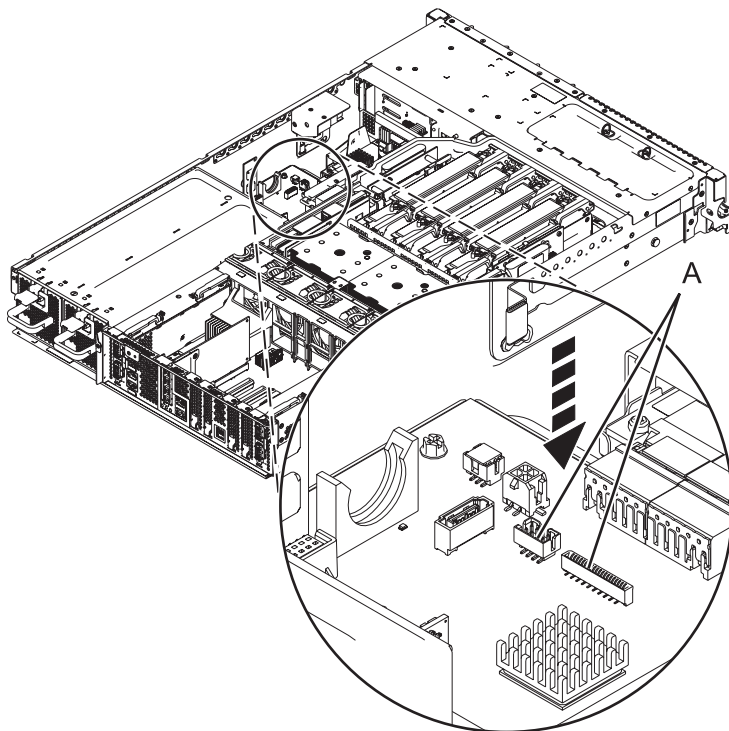

Figure 61. Connecting the operator panel cable
- c. Connect the operator panel cable by firmly pressing the cable connectors into the cable receptacles (A). See Figure 61.